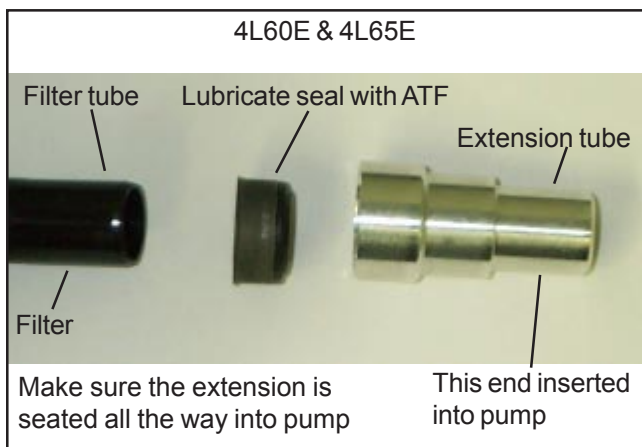

Figure 3
STEP 4. For the 4L60E & 4L65E transmission, install the supplied seal in the extension tube provided in the kit (See Figure 3). Lubricate the seal with transmission fluid and place the extension tube onto the filter (B&M recommends that the filter be changed at this time). B&M recommends filter p/n: 24200796 for the 4L65E or deep pan applications. Install the assembly back into the oil pump bore being careful not to damage the seal in the pump.